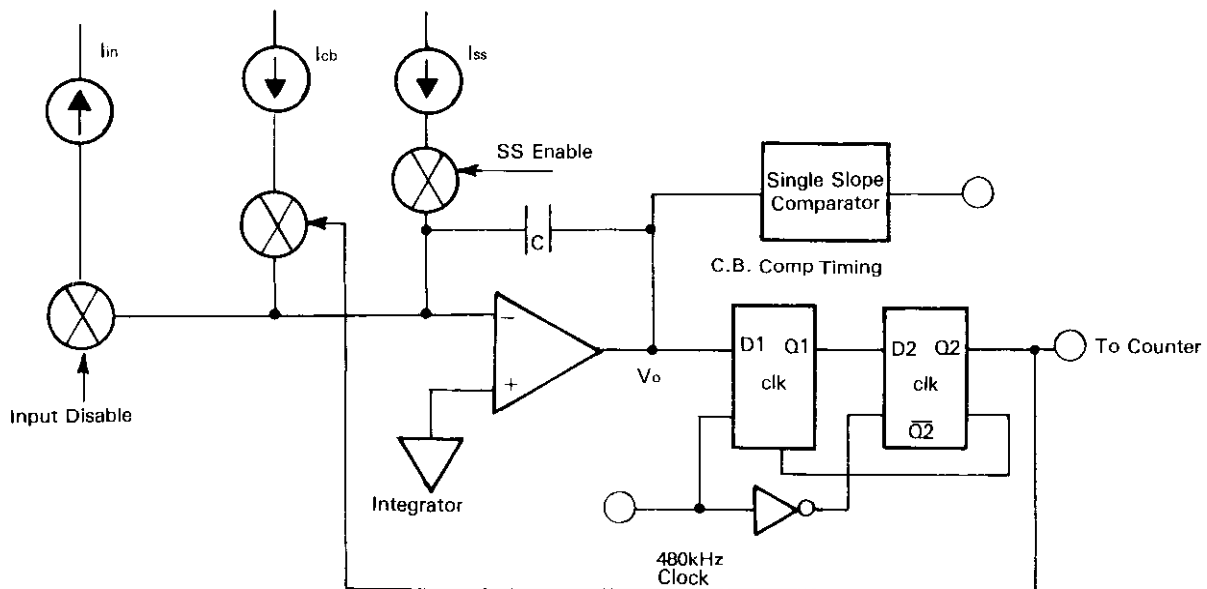

FIGURE 4-5 Charge Balance - Single Slope Phase
The A/D operates in two phases; first the charge balance phase (CB), and the single slope phase (SS). Figure 4-5 shows